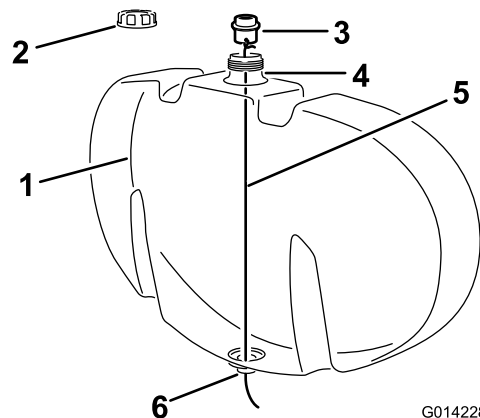

Figure 2
- B. Attach a wire, longer than the tank is tall, to one of the retaining fork holes in the bulkhead fitting (Figure 2).
- C. Remove the rinse tank filler cap (Figure 2).
- D. Lower the wire through the opening in the tank fill hole and route it through the open hole in the bottom of the tank (Figure 2).